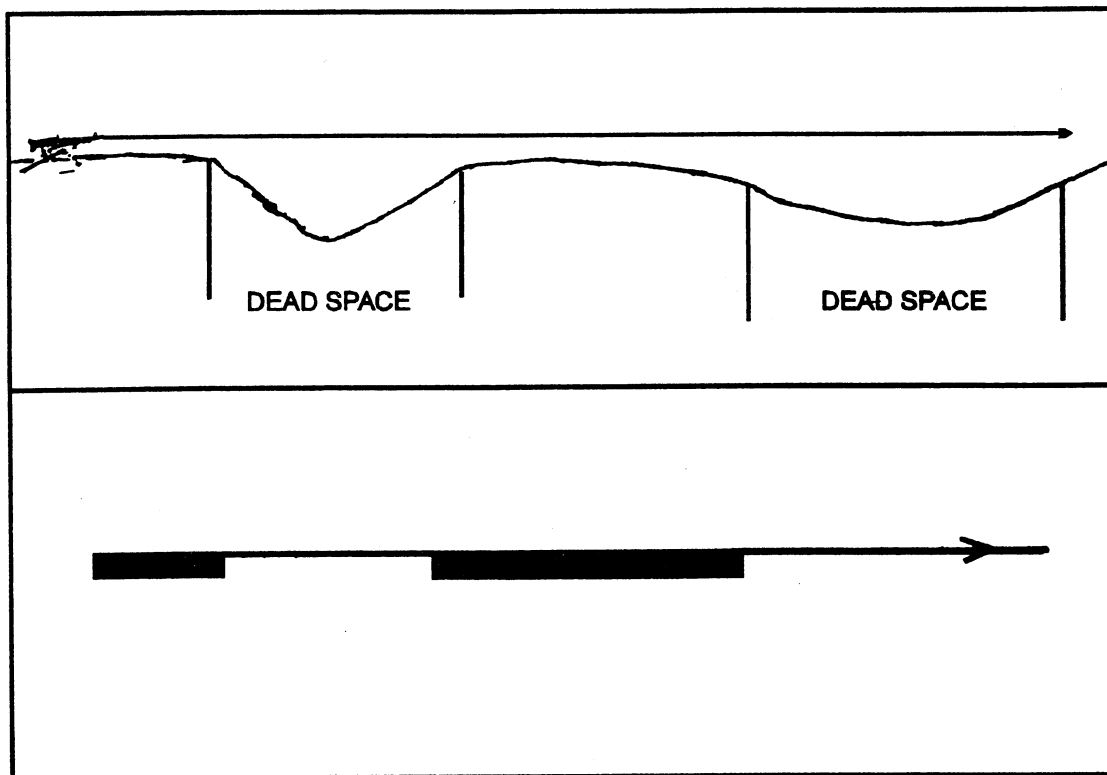

Fig 4-14. Dead space.
- (1) Physical location on the ground of the gun position. This position should be somewhere that provides as much cover and concealment as possible while still allowing the gun to cover the assigned sector of fire.
- (2) The left and right lateral limits of your sector of fire. These should not exceed 800 mils in width.
- (3) Which sector limit will contain the FPL. The FPL is always placed in one of the two sector limits. The sector limit should be over flat ground or uniformly sloping ground for ranges up to 700 meters. The irregularities in the ground and the nature of the slope of the ground often create areas along the FPL that grazing fire will not cover (demonstrated in fig 4-14). These areas are called "dead space."